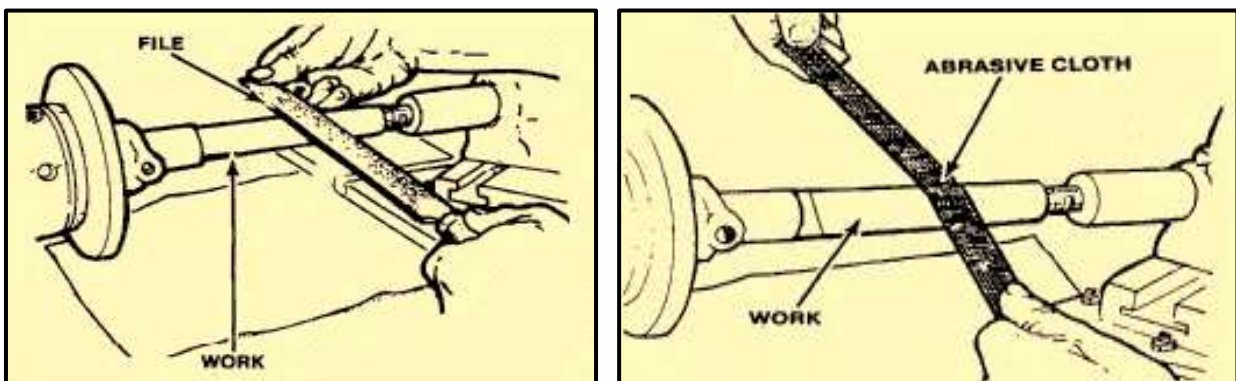

Figure 7-78: Filing and polishing on a lathe.
**Filing Operations:** Mill files are generally considered best for lathe filing. The file is held at an angle of **about 10°** to the right and moved with a slow sliding motion from left to right. The direction of stroke and angle should never be the opposite, as this will cause chatter marks on the piece. The file should be passed slowly over the workpiece so that the piece will have made several revolutions before the stroke is completed. The pressure exerted on the file with the hands should be less than when filing at the bench. Since filing should be used for little more than to remove tool marks from the workpiece, only **0.002 to 0.005 inch** should be left for the tiling operation. (Figure 7-78).
Move the polishing strip slowly back and forth to prevent material building up on the strip which causes polishing rings to form on the work. To produce a bright surface, polish the work dry. To produce a dull satin finish, apply oil as the polishing operation is in progress. (Figure 7-78).